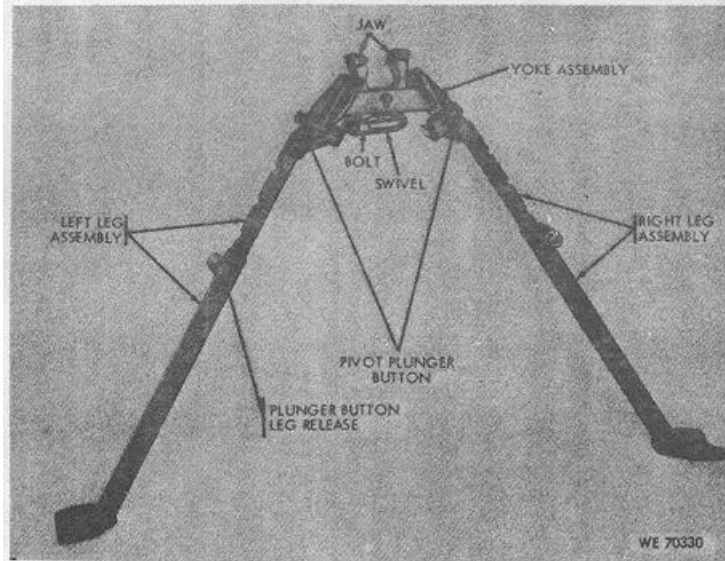

Figure 1-10. Rifle Bipod M2.
c. The rifle bipod (fig. 1-10) is a light weight portable, folding mount which clamps to the gas cylinder of the rifle.
The bipod (fig. 1-10) is used as an adjustable support for the rifle when it is being fired. The bipod legs are adjustable.